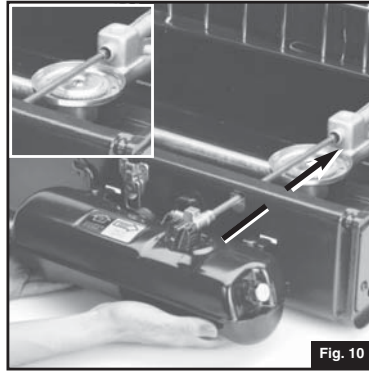

Fig. 10
- Insert GENERATOR into large hole on front of stove and into mixing chamber above burner. Engage TANK CLIPS into slots on front of stove. (Fig. 10)